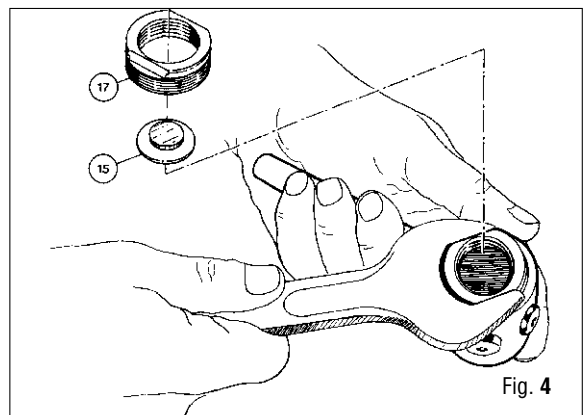

Fig. 4
8. Unscrew retaining nut (17) using wrench (B-2) and remove the spring base plate (15). (Fig. 4)